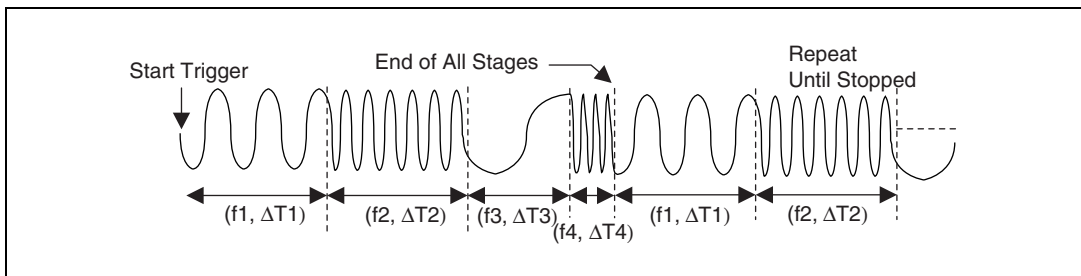

Figure 2-11. Continuous Trigger for DDS Mode
- DDS mode—Figure 2-11 illustrates a continuous trigger mode of operation for DDS waveform generation mode.